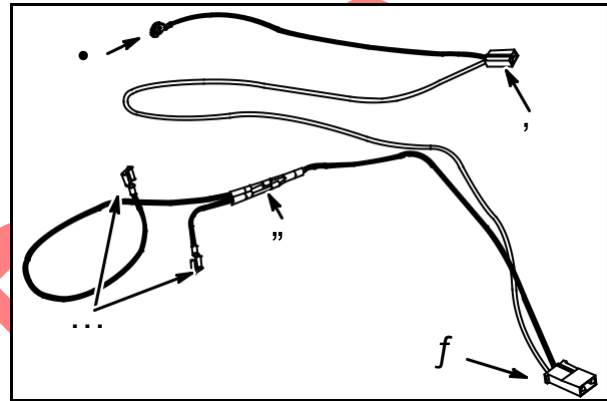

Fig. 45
The engine wiring harness consists of a ground wire with a diode (4) for each armature (5) and a separate wire (2) for the carburetor solenoid, **Fig. 45**. The engine wiring harness is connected to the wiring harness provided by the equipment manufacturer. A raised rib on the polarized connector (3) indicates the ground side.